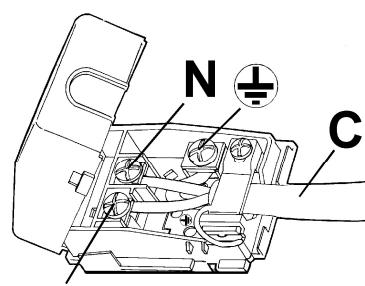

FIG. 8
- If a power cord is not supplied with the appliance, connect a cable with a suitable section to the terminal board (see table in paragraph 6) keeping the earth wire longer than the lead wires, following the diagram in fig. 8.
- apply to power cable "C", if not provided, a standard plug suitable for the load indicated on the information label. Connect the wires as in the diagram in fig. 8 taking care to observe the responses listed below:
To replace components located inside the fryer the resistance should be lifted up and secured in the vertical position. Take out the oil kettle and loosen the four screws that are under it (see fig. 8). The work surface can now be detached from the worktop giving access to all internal components.